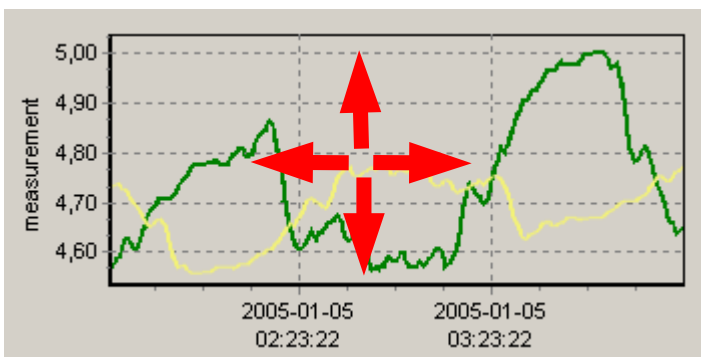

Fig. 3.8. Moving the graph
- **moving the graph** - the graph can be moved to the left/right (earlier/later time period, correspondingly). In order to do this, right-click on the graph and drag the pointer in desired direction (**Fig. 3.8**).